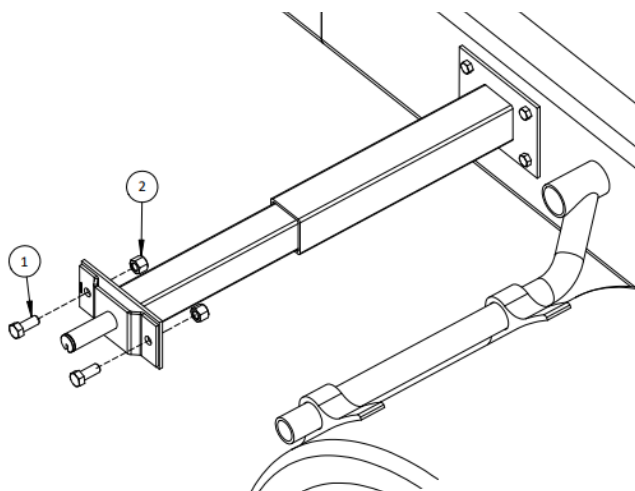

FIGURE 3.7: MOUNTING PIVOT PINS
Install the pivot pins on either offset bracket. Ensure the slot on the pivot shaft is facing downward. Use supplied 5/8 x 1-1/2" bolts (1) and nuts (2) to mount the pivot pin to the offset. See *Figure 3.7*.